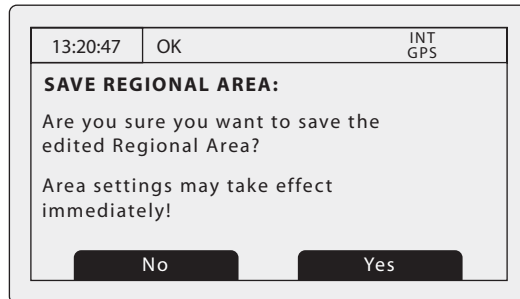

Figure 52 Regional area settings confirmation screen
7. You will be prompted to confirm storage of the regional area setting with the display shown in Figure 52.